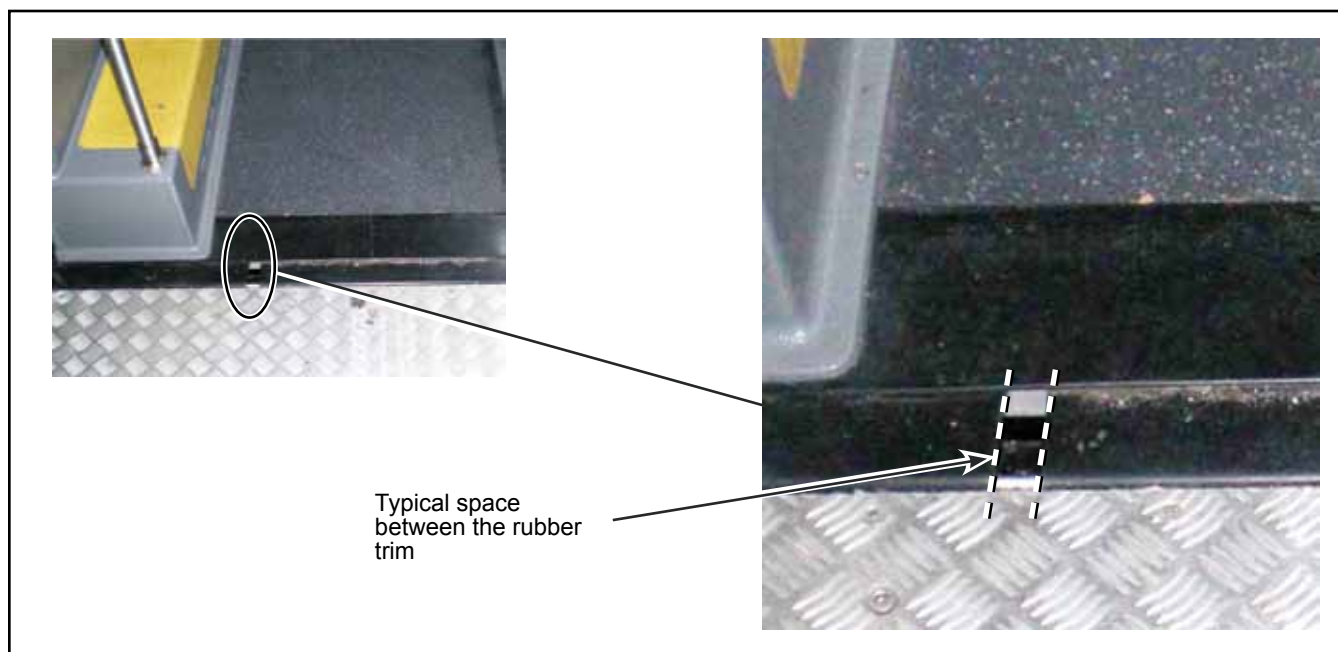

Figure 3 - Typical Space Between Floor Trim
- 1.3. If required, replace the floor trim to eliminate any gap in the joints. See Figure 3.